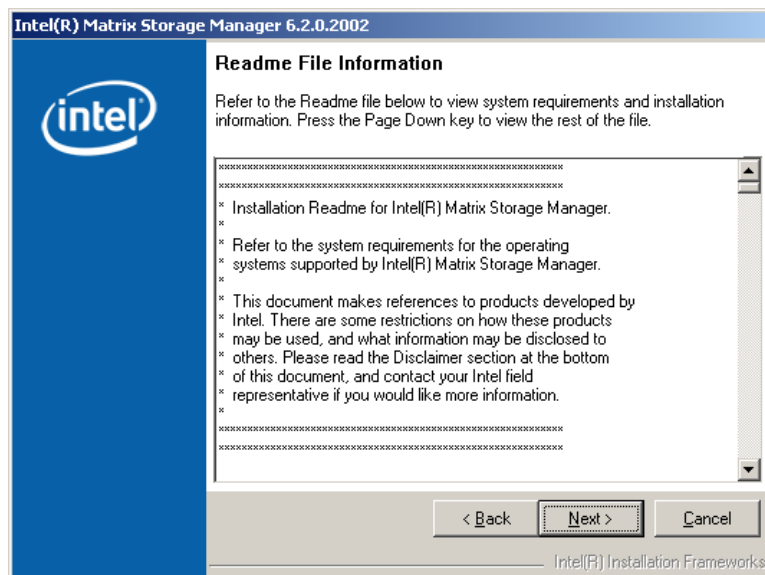

Figure 7-28: Matrix Storage Manager Readme File
Step 10: Read the license agreement. To accept the terms and conditions stipulated in the license agreement shown, click **YES** and the Readme information file shown in **Figure 7-28** appears.